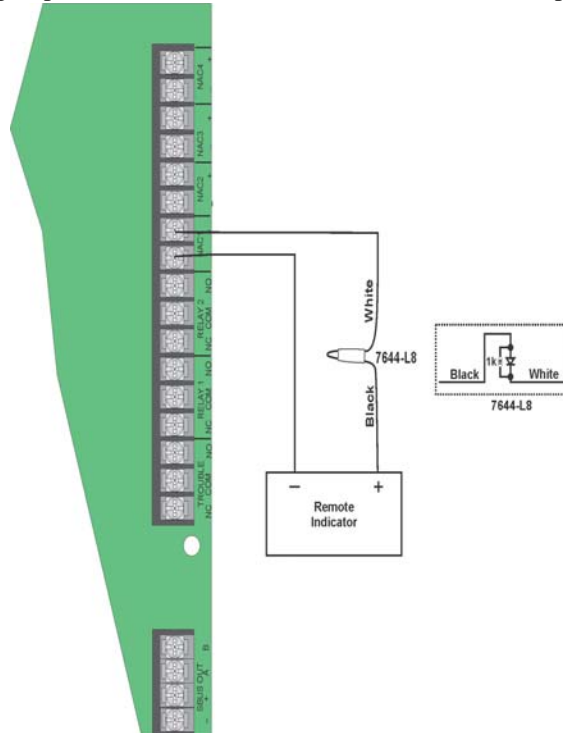

Figure 4-46 Polarity Reversal Connection Using the 7644-L8
1. Wire the 7644-L8 to the control panel as shown in Figure 4-46. Do not install an EOL resistor on the terminals of the NAC circuit used.